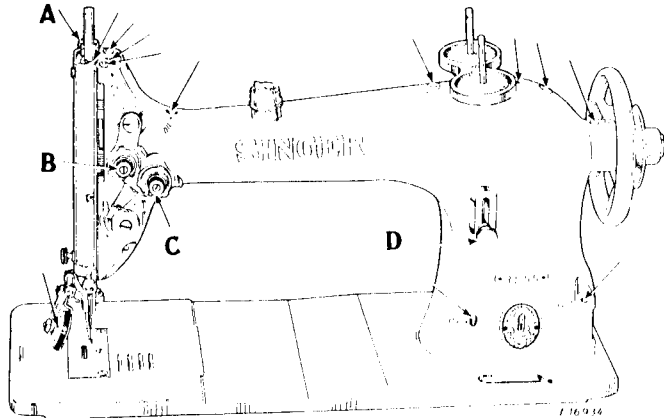
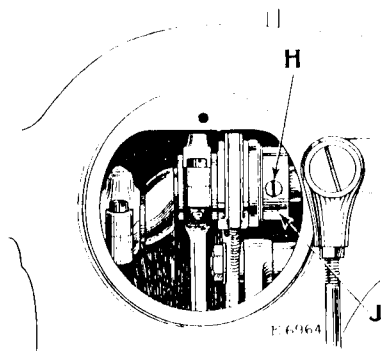

Fig. 2. Oiling Points At The Front Of The Machine
Fig. 11. Adjustment For Timing The Feeding Mechanism
Oil should be applied to all oil holes marked "Oil" and to all oiling places indicated by unlettered arrows in Figs. 2, 3 and 4.
The length of stitch is regulated by the thumb screw (D, Fig. 2) in the slot on the front of the upright part of the arm. To lengthen the stitch, loosen this thumb screw and move it downwardly. To shorten the stitch, loosen this thumb screw and move it upwardly. When the desired length of stitch has been obtained, tighten the thumb screw (D).
The pressure on the material is regulated by the thumb screw (A, Fig. 2). To increase the pressure, turn this thumb screw over to the right. To decrease the pressure, turn this thumb screw over to the left.
The tension on the needle threads should be regulated only when the roller presser is down. After lowering the roller presser, turn the thumb nuts (B and C, Fig. 2) at the front of the tension discs over to the right to increase the tension. To decrease the tension, turn the thumb nuts over to the left.
When it is necessary to time the feeding mechanism, press the stitch regulator (D, Fig. 2, Page 4) down to its lowest position and turn up the round cover plate at the back of the machine. Loosen the feed eccentric set screw (H, Fig. 11) and turn the feed eccentric (J, Fig. 11) until the feed is correctly timed as instructed above, then securely tighten the set screw (H).